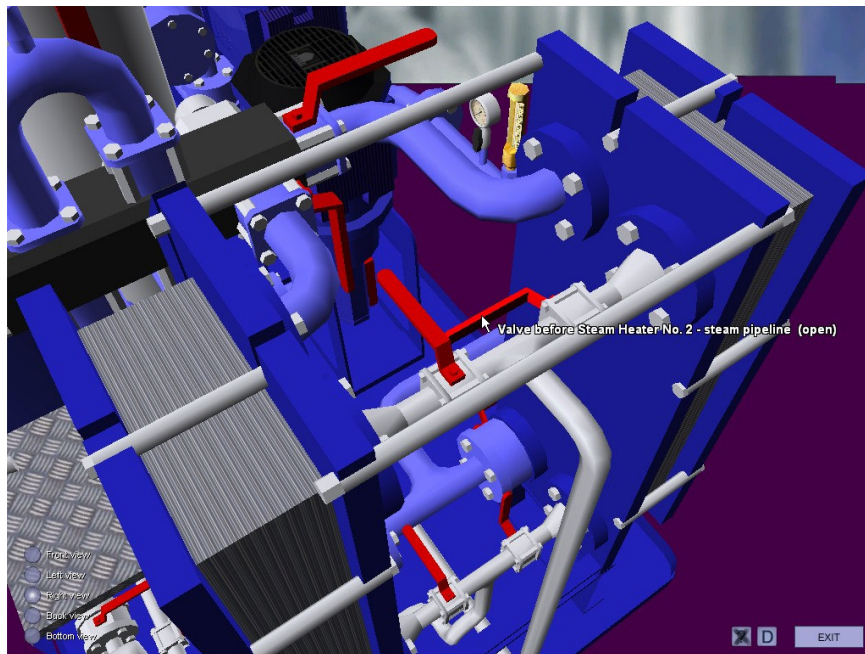
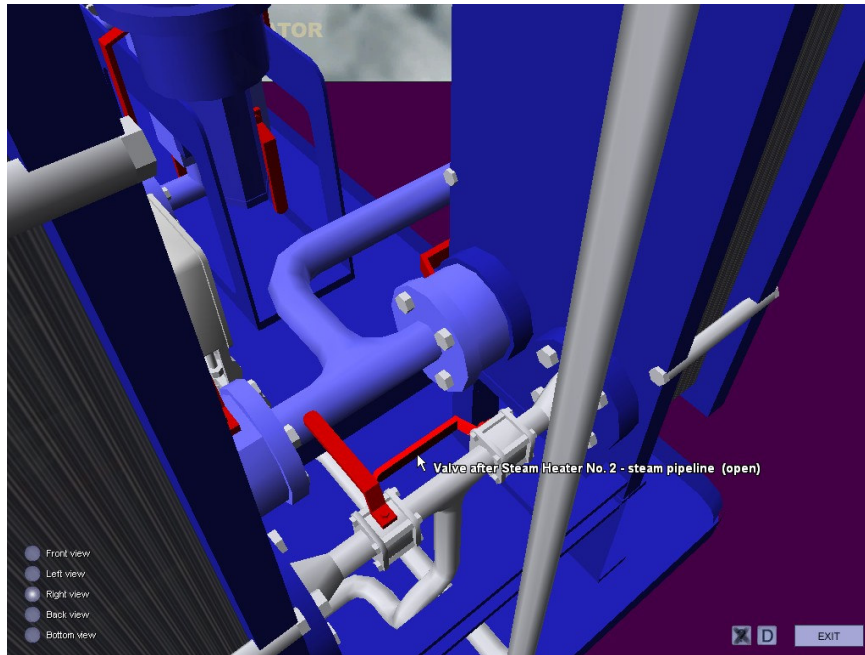

Fig. 23. Right view - Heat exchanger valves - steam inlet
Fig. 24. Right view - Heat Exchanger valves - steam outlet
10. Open valves before and after previously selected Steam heater (in this case, before and after Steam heater No. 2) (fig. 23, fig. 24).